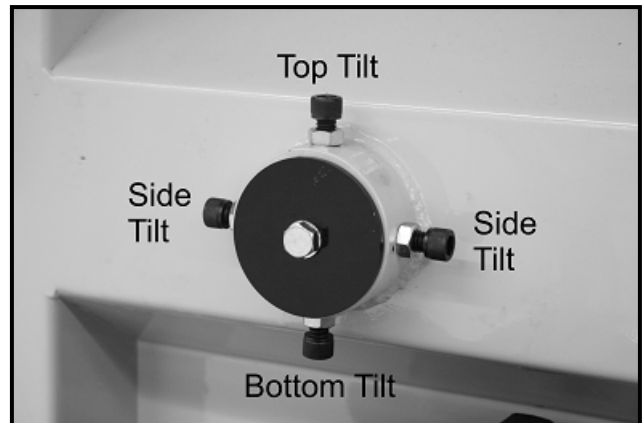

Figure-16 Lower wheel tilting controls
*Loosen the four lock nuts shown in figure-16 and turn the hex screws to tilt the lower wheel to the desired direction to get the proper angle of tilt and tighten back the nuts.*
Turning all four hex bolts shown in figure-16, clockwise in equal amount pushes the lower wheel forward while turning them counter-clockwise will bring the wheel backward.